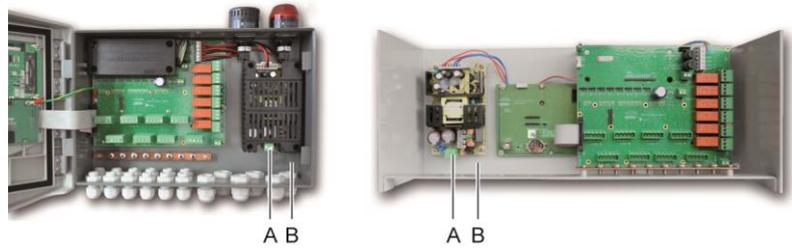

Figure 28: Connection of sector power in wall-mounted and rack-mounted versions.
The sector power shall be connected to the terminal block as indicated in Figure 28. The ground conductor shall be connected to the ground terminal (B).